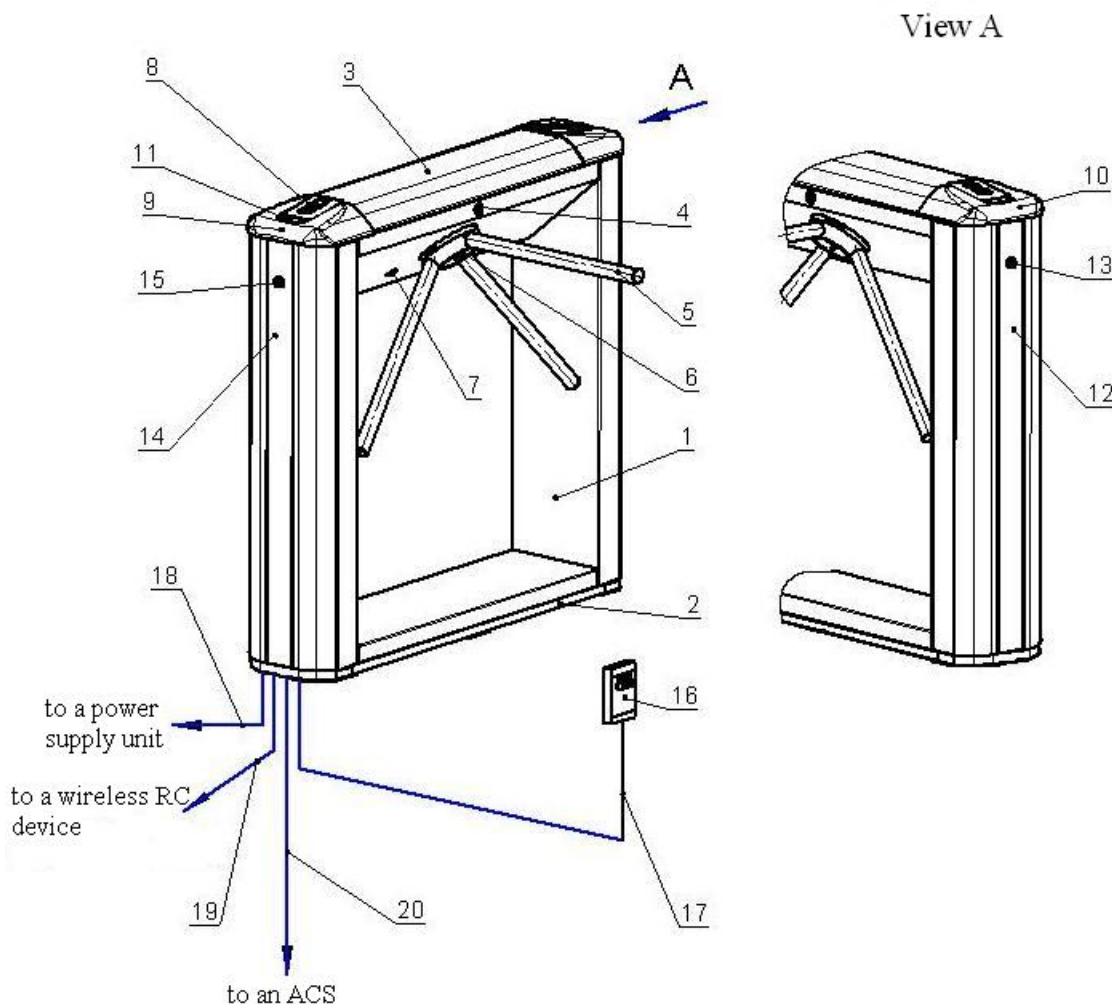

Figure 1 – TB-01 overall view
6.2.1 Design of the TB-01 turnstile is shown in Figure 1. Numbers of the items hereinafter refer to the item numbers as shown in Figure 1 unless stated otherwise.
The TB-01 turnstile consists of a turnstile housing with built-in electronics and two card readers, three barrier arms and an RC panel (Ref. Fig. 1, items 1-3, 5 and 16).